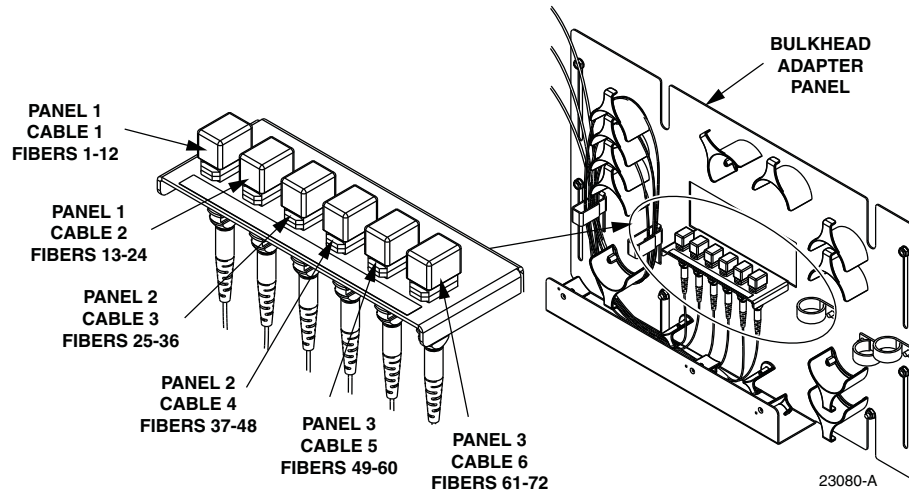

Figure 56. Layout of Bulkhead Adapter Panel
11. Locate the adapters on the bulkhead adapter panel that correspond to the distribution panel to which the distribution cables will be connected. The layout of the adapter panel is shown in Figure 56.